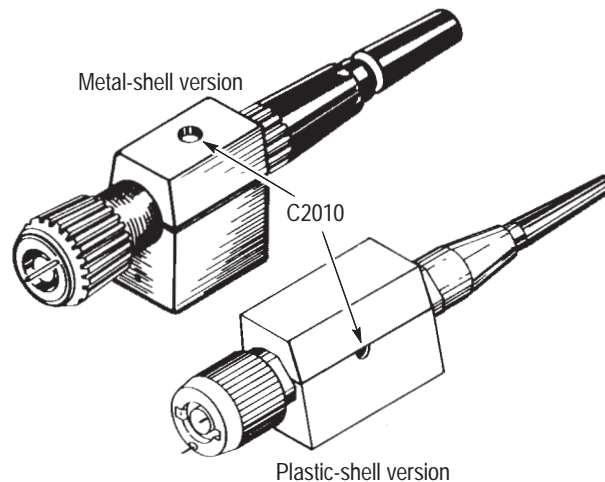
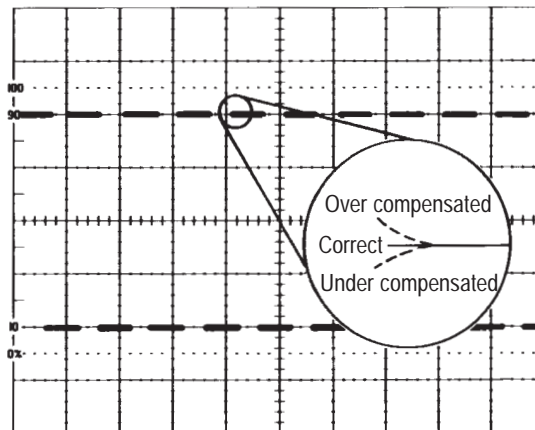

Figure 6: Low-frequency compensation adjustment locations
Figure 7: Low-frequency compensation, optimizing the waveform
5. Using the low-reactance alignment tool, adjust C2010 to optimize the square wave front corner edge. See Figure 6 for the adjustment location; see Figure 7 for waveform optimization criteria.